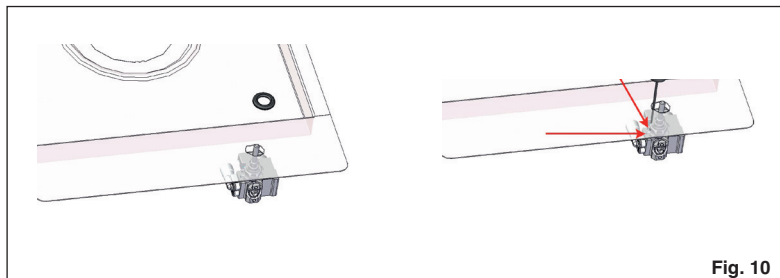

Fig. 10
- to adjust to the minimum, use a screwdriver on the screw placed on the tap (Fig. 10) after turning the tap to its minimum position. For GPL (butane/propane) screw tight.